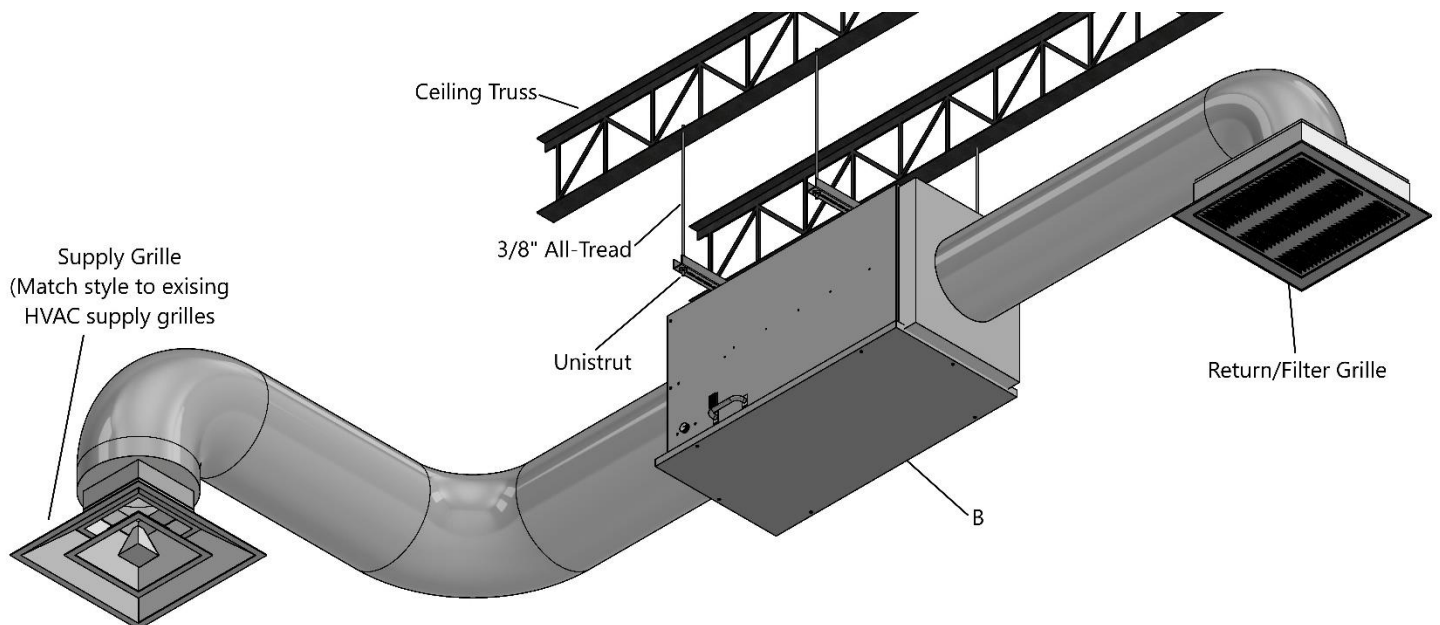

Figure 5: Ducted Ceiling Mounting
10.) Attach ductwork as shown in Figure 5. Insulate the exterior of B units that are installed in locations that are not climate controlled. These locations include ducts in attics, on top of roofs, and on the side of buildings.